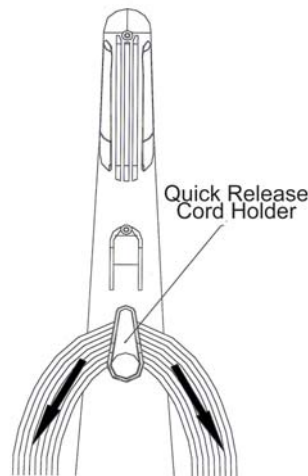

Fig. 4
4. Turn the quick release cord holder to the left or to the right to unwrap the power cord. (Fig. 4)